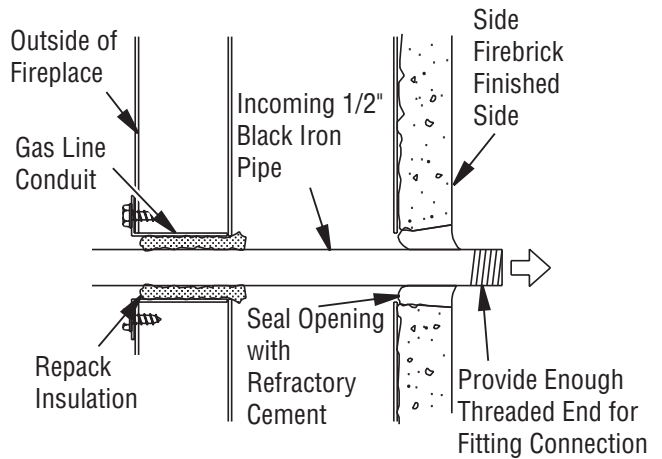

Figure 39 - Gas Line Installation
3. Run a 1/2" black iron gas line into fireplace through the rear at gas line conduit sleeve (if using a raised platform, add height). Provide sufficient gas line into fireplace chamber for fitting connection (see Figure 39).